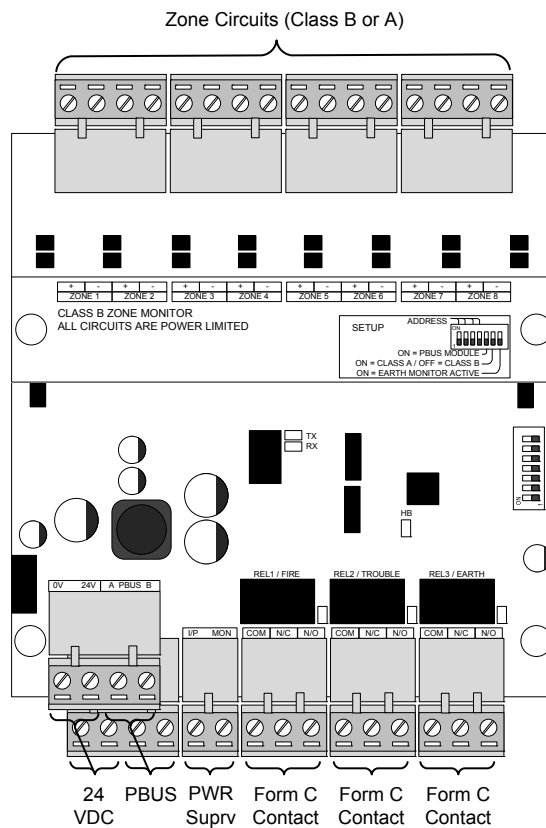

Figure 43 - AX-CZM Module
The AX-CZM is an Advanced conventional zone module that can be monitored and controlled by an Axis^{AX} fire alarm control panel (see figure 43). The AX-CZM conventional zone module provides monitoring for up to eight (8) Class B conventional zones, with programmable end-of-line, or four (4) Class A conventional zones. In addition, each AX-CZM module has three (3) field programmable Form C relay contacts defaulted to activate on common alarm. Up to sixteen (16) AX-CZM modules can be supported by a single Axis^{AX} fire alarm control panel. By supporting sixteen (16) AX-CZM modules, an Axis^{AX} fire alarm control panel can accommodate up to 128 Class B (64 Class A) conventional zones and 48 (Form C) field programmable relay contact outputs.